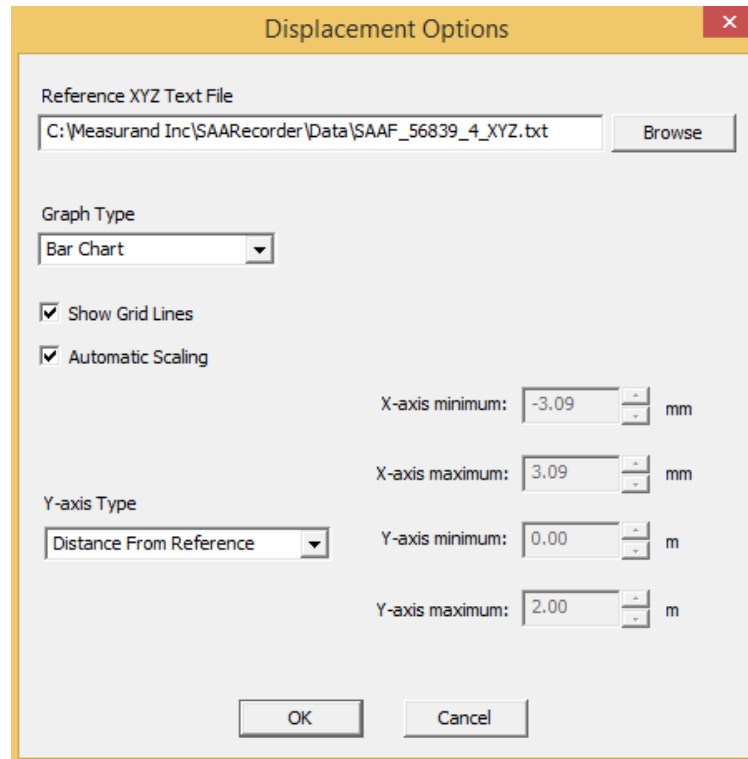

Figure 6.92: 'Graph Displacement Options' window.
6. The 'Graph Options' button gives the user options to change some graph settings. The window in Figure 6.92 opens.